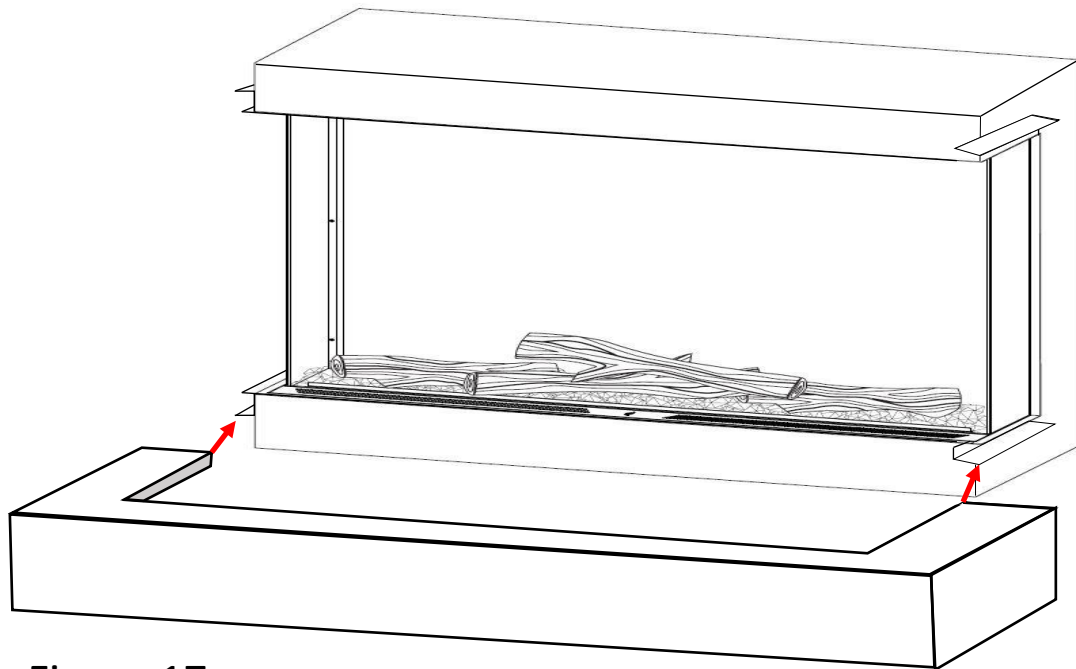

Figure 17
- Secure the bottom cabinet and align left and right onto brackets. (*see figure 17*) Cabinet will slide in between the bracket and drywall stops. **MAKE SURE TO INSERT CABINET LEVEL & EVENLY TO AVOID DAMAGING CABINET. IF TOO TIGHT REMOVE CABINET, LOOSEN BRACKETS, MAKE SPACING LARGER, AND RE-TIGHTEN BRACKETS; THEN RETRY.**